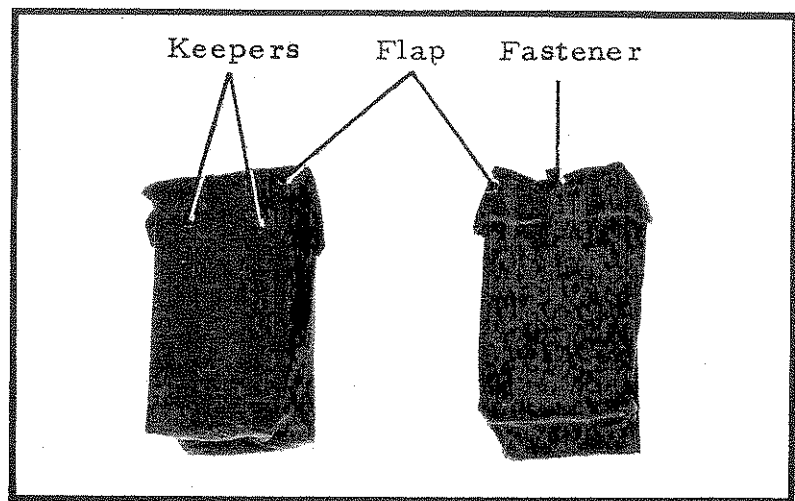

FIG 6
15. Bag, Accessory, CW-F2. (Fig 6). These webbing bags are provided for the carriage of accessories when the equipment is being used in the manpack role. Each bag has a flap type closure and fastener and is attached to the Harness Assembly ST-F1 by passing the harness restraining straps under the keepers sewn to the back of the bags.